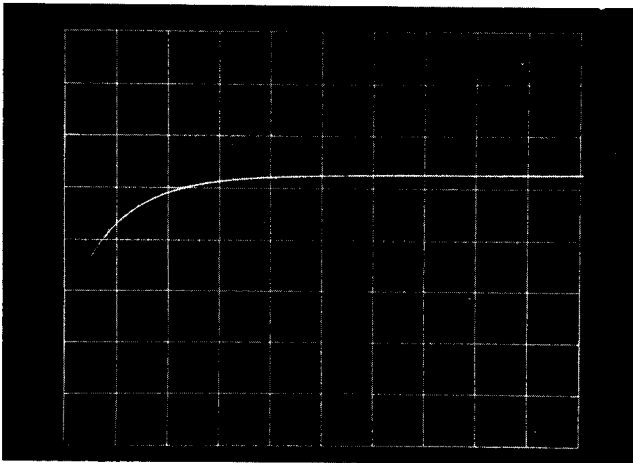

Fig. 2-4. Stored display of calibrator rise using the INTEGRATE button, at  $1 \mu\text{sec}/\text{cm}$  sweep rate.
8. Release the INTEGRATE button. A stored trace should be present on the screen (see Fig. 2-4). If not, repeat the demonstration and hold the INTEGRATE button for a few seconds longer.